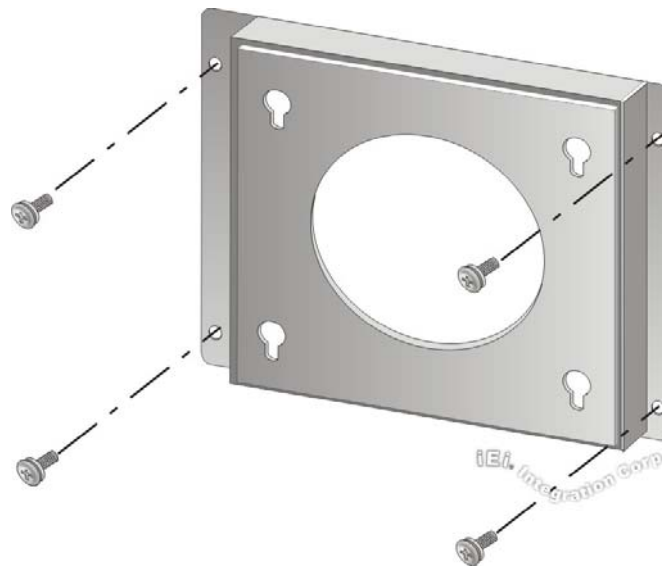

Figure 3-24: Wall-mounting Bracket
- Step 5:** Secure the mounting bracket to the wall by inserting the retention screws into the four pilot holes and tightening them (**Figure 3-24**).